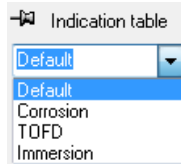

Figure 6-8 Selecting a predefined reading category in the indication table
5. In the **Indication Table** dialog box, select a predefined reading category (see Figure 6-8 on page 326) to select the readings that appear in the table.